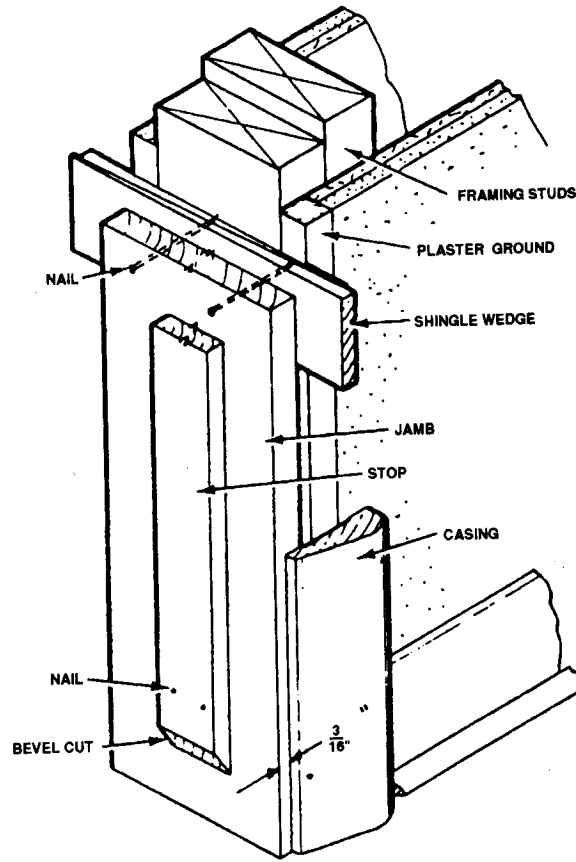

Figure 1, Door frame and trim
When you order or make a door unit, you must consider the door's thickness, height, and width, as well as the thickness of the wall into which it will go. Door units come in different sizes, the most common size being 3' 0" x 6' 8". Jambs can vary from 4 1/2" to 5 1/4 " in width. However the most common door unit jamb you will encounter will be 4 5/8" wide for walls with 1/2" drywall installed. You may be required to install a door unit in new construction or replacing a damaged unit. In either case the most important item is the opening, usually you will have an opening about 3" higher than the door height and 2 1/2" wider than the door width. This provides the necessary clearance for leveling and plumbing the unit. The doorframe forms the lining of the door opening (Refer to Figure 1). It also covers the edges of the partition. The most common type of jamb is the one-piece type, but may be obtained in two or three piece adjustable jambs. Their principal advantage is in being adaptable to a variety of wall thickness.
- To finish the door installation, door casing is applied to each side of the doorframe to cover the space between the jambs and the wall surface. This secures the frame to the wall structure and stiffens the jambs so they will carry the door. Casing should be nailed to both the jamb and the framing member. You should allow about a 3/16-inch edge distance from the face of the jamb. Refer to Figure 1.